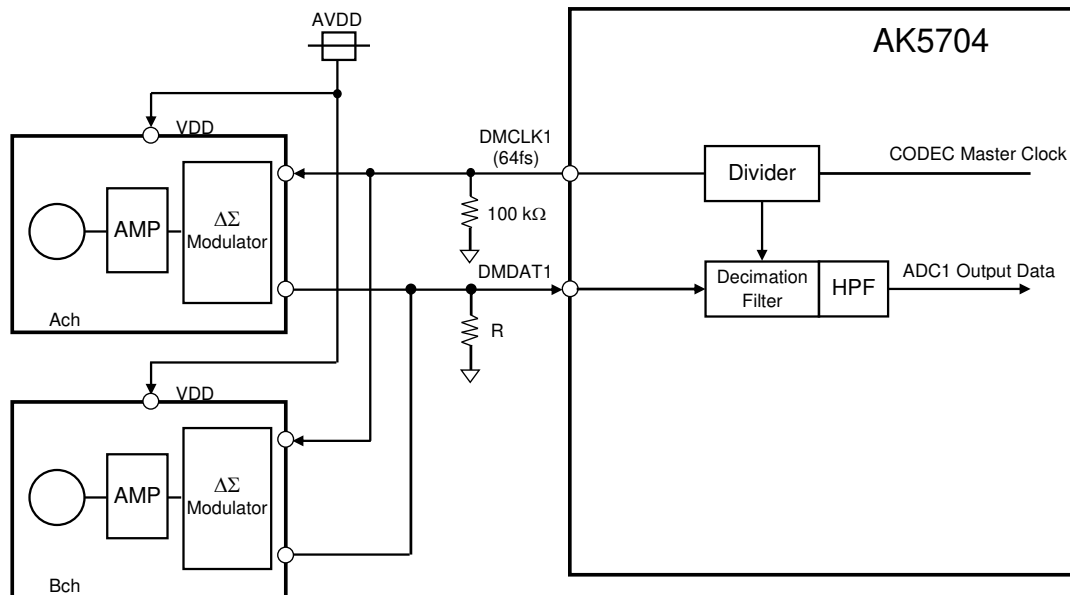
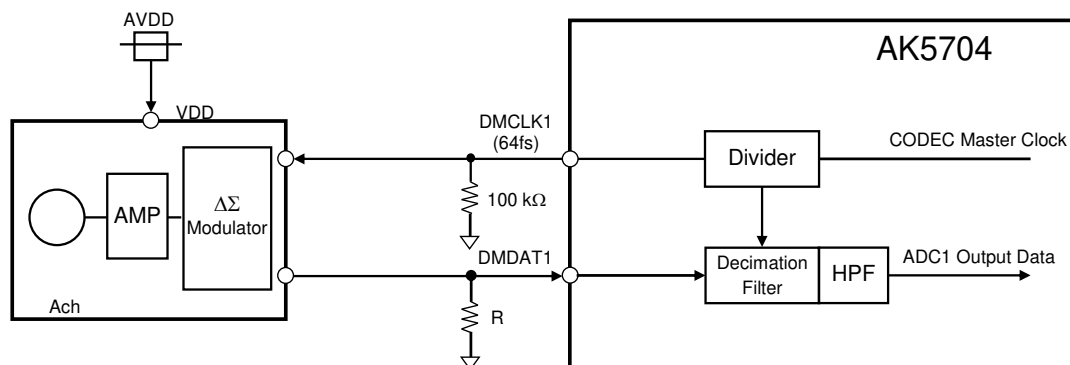

Figure 33. Connection Example of Stereo Digital Microphone (DMIC1 bit = “1”)
Figure 34. Connection Example of Monaural Digital Microphone (DMIC1 bit = “1”)
The same power supply as AVDD must be provided to the digital microphone. The Figure 33 and Figure 34 show stereo/mono connection examples. By dividing the master clock to 64fs with divider, the DMCLK1 (DMCLK2) signal is output from the AK5704, and the digital microphone outputs 1bit data, which is generated by $\Delta\Sigma$ Modulator, to DMDAT1 (DMDAT2). PMDM1A/B (PMDM2A/B) bits control power up/down of the digital block (Decimation Filter and HPF). PMAD1A/B (PMDM2A/B) bits settings do not affect the digital microphone power management. The DCLKE1 (DCLKE2) bit controls ON/OFF of the output clock from the DMCLK1 (DMCLK2) pin. When the AK5704 is power-up (PDN pin = “H”), external pull-down resistor (R) should be connected to the DMDAT1 (DMDAT2) pin to avoid floating state. Note that when using the digital microphone it does not support quad speed mode ($f_s \geq 128$ kHz).